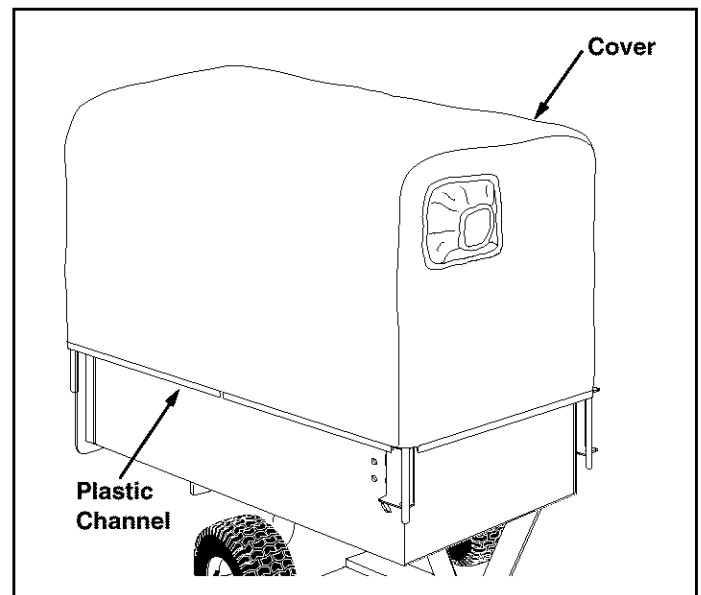

FIGURE 13
5. Unzip the rear flap to place the tailgate down into the tailgate guides. See Figure 13.